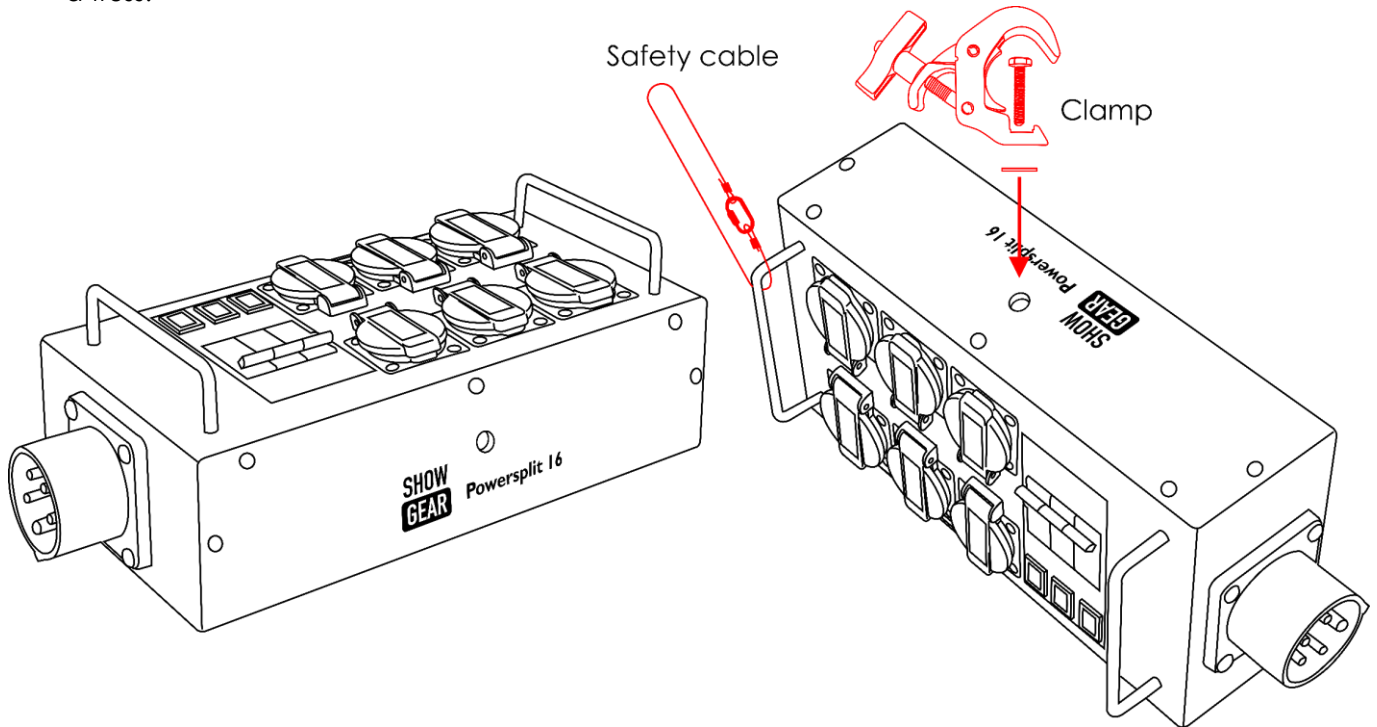

Fig. 05
- 01) Install the clamp, as shown in Fig. 05. Make sure that the clamp is suitable for attaching the device to a truss.
- 03) Secure the device with a secondary suspension, for example a safety cable. Make sure that the secondary suspension can hold 10 times the weight of the device. If possible, the secondary suspension should be attached to a supporting structure independent of the primary suspension. Put the safety cable through the handle, as shown in Fig. 05.